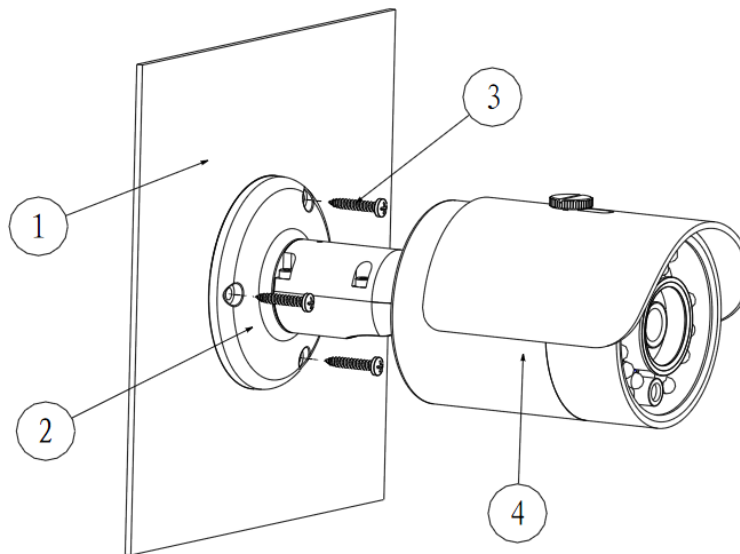

Figure 3-1
In Figure 3-1, ①Installation surface; ②Bracket; ③Screws; ④Camera.